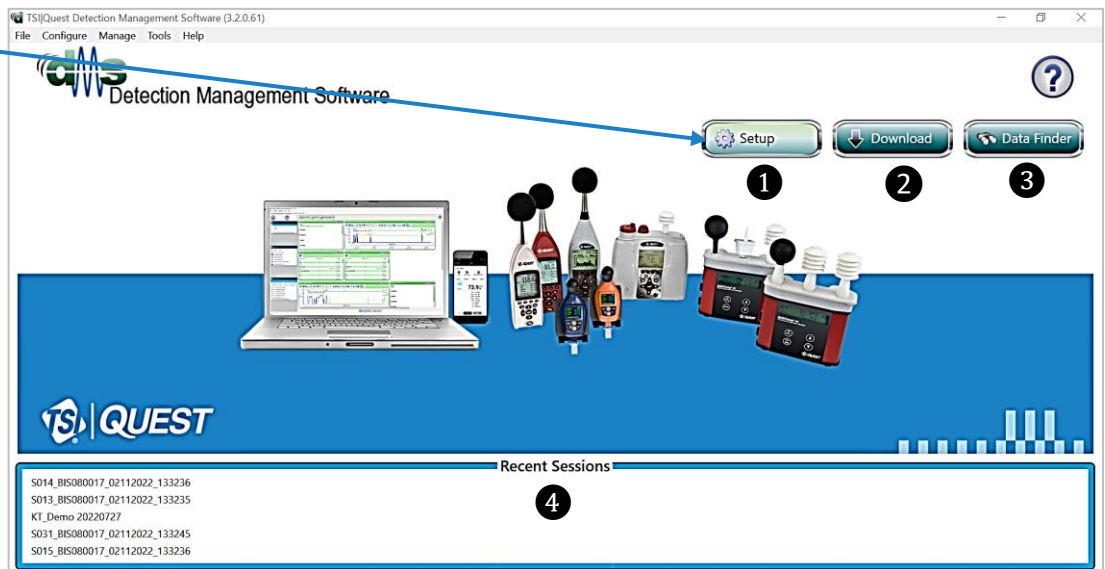

Figure 1-2: Start up screen
When either the Setup or Download buttons (see ❶ and ❷, Figure 1-2) are clicked, the instrument communications page will open. The primary functions there include:
When the **Data Finder** button (see ❸, Figure 1-2) is clicked, the data finder page will open to provide you access to your downloaded data files. The page is organized in a tabular format by instrument family (sound level meters, dosimetry, heat stress, and environmental monitoring.) session data and study data. (See “Glossary” for session and study data terms.)
The bottom of the screen displays **Recent Sessions** (see ❹, Figure 1-2) for accessing your previously accessed data files.